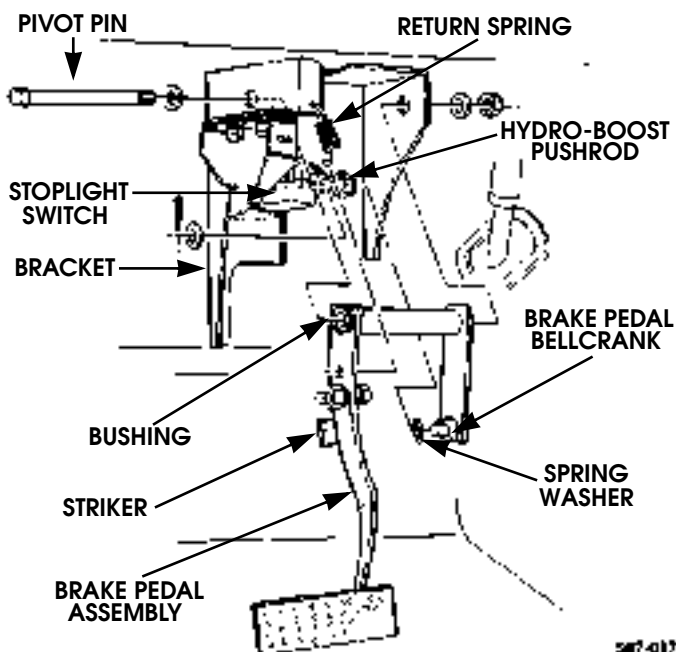

Figure 7-15: Service Brake Pedal Components
1. Disconnect the stoplight switch (Figure 7-15).
2. Remove pushnut and disconnect stoplight switch rod (if so equipped) from brake pedal assembly. Discard pushnut. (Figure 7-15).